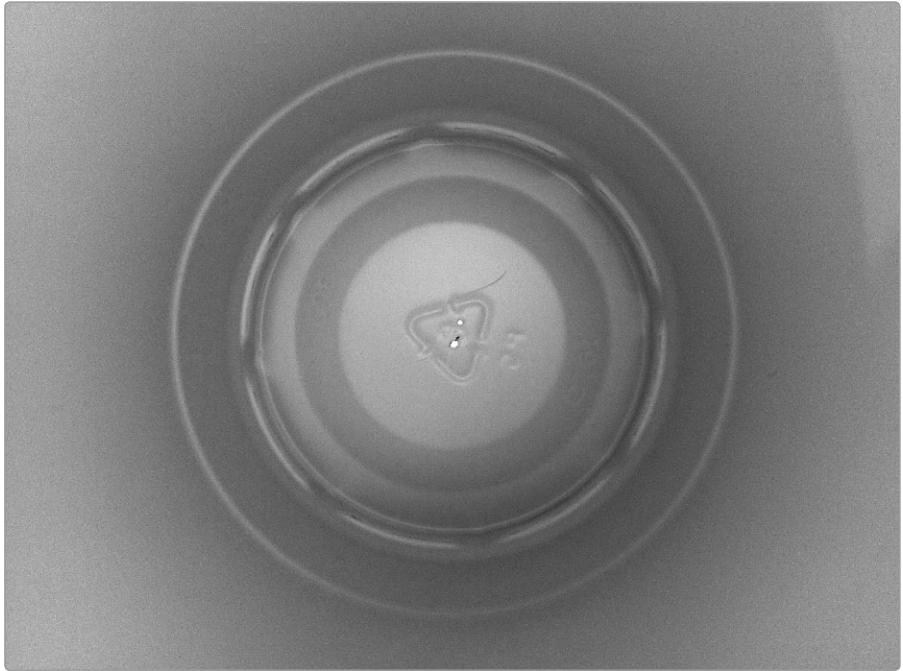

FIGURE 1-3: *The pinholes in the bottom of the disposable plastic cup*
Use your pushpin to pop two holes, roughly 3 mm apart, through the middle of the bottom of your plastic cup, as shown in Figure 1-3. We're using a cheap 16-ounce "party cup" here for two reasons: (1) it's easy to pop a hole through with a pin, and (2) the thin, rigid plastic vibrates readily, making a nice diaphragm. The Slinkiphone ultimately functions as both a rudimentary microphone and an amplifier, so a relatively rigid diaphragm with a large diameter is a plus.